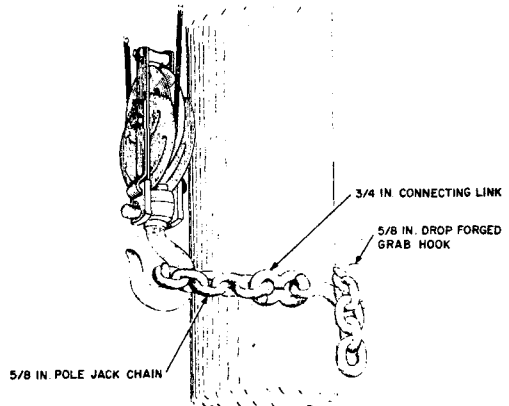

Fig. 3—Pole Jack Chain
3.05 A 5/8-inch pole jack chain can be used for attaching a wire rope snatch block to the pole as shown in Fig. 3. See Section 081-410-105 for connecting links.